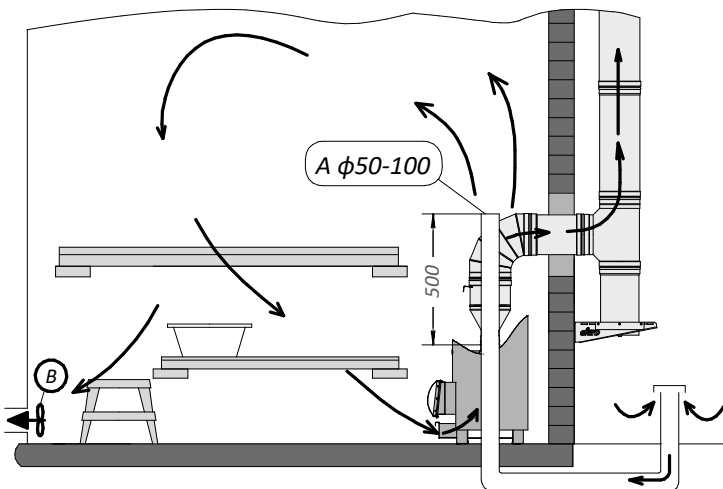

Figure 2.
2) Mechanical exhaust ventilation (Figure 2):